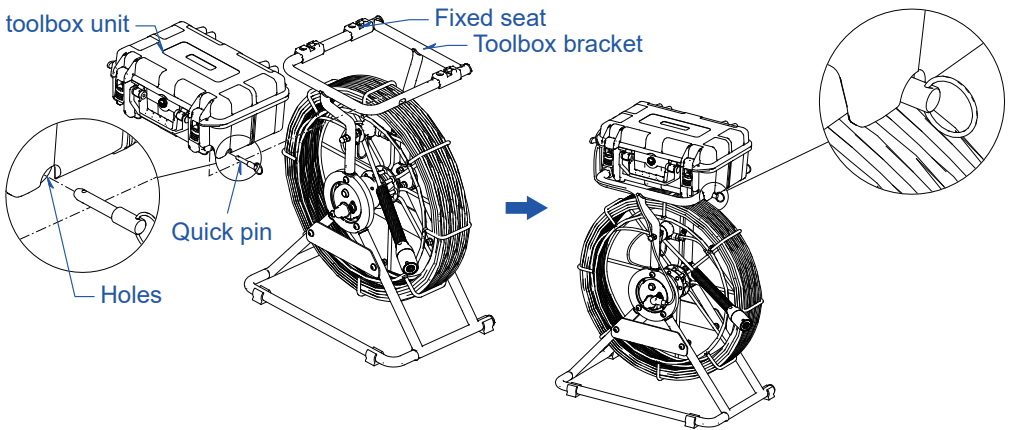

Figure 17. Install toolbox unit
3. If you choosed the toolbox unit, please install the toolbox unit (Figure 17)